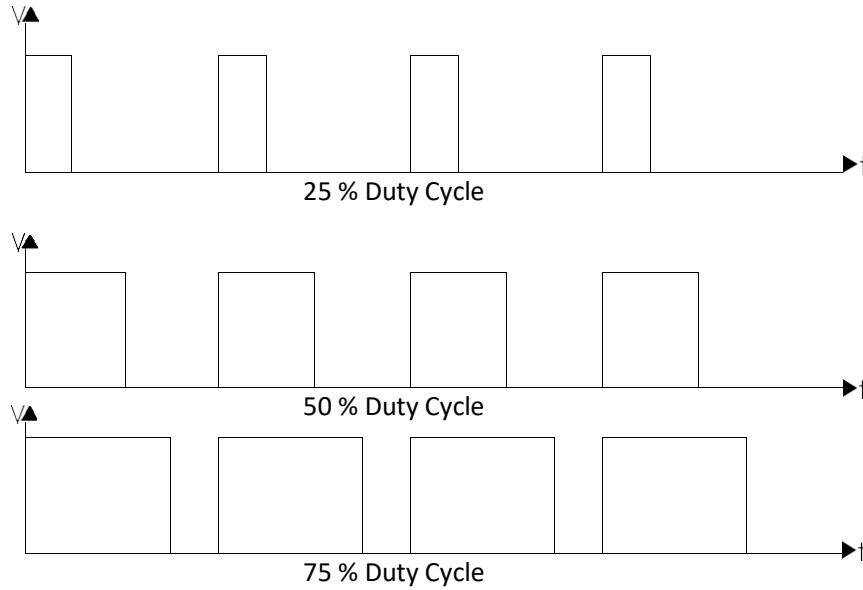

Figure 1 – Duty Cycles
1. A PWM signal is not constant. Rather, the signal is on for part of its period, and off for the rest. The **duty cycle**, D , refers to the percentage of the period for which the signal is on. The duty cycle can be anywhere from 0, which indicates that the signal is always off, to 1, which indicates that the signal is constantly on. A 50% D results in a perfect square wave. (Figure 1)